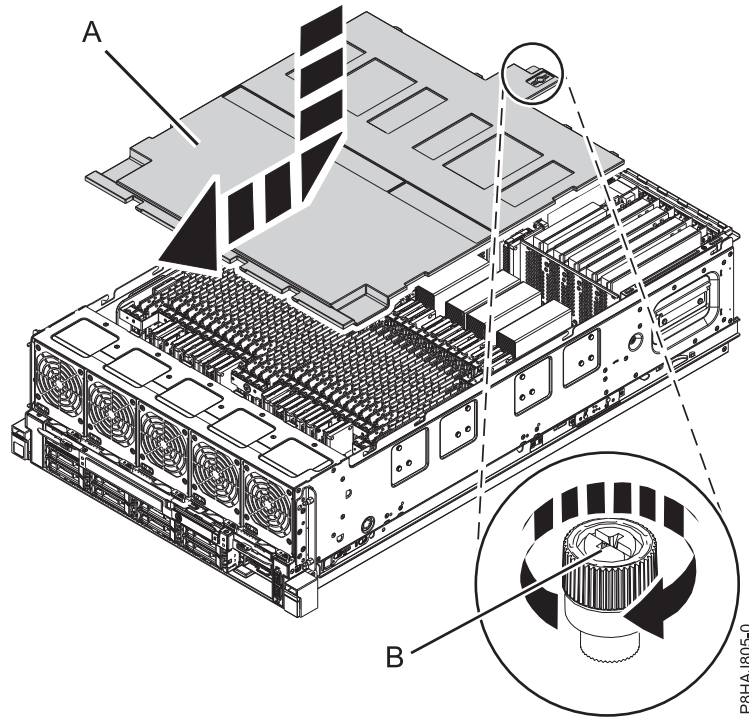

Figure 34. Replacing the safety cover
2. Push the safety cover (A) toward the chassis.
3. Tighten the thumbscrew (B) by turning it in the direction shown in Figure 34 on page 47 to fix the safety cover to the chassis.